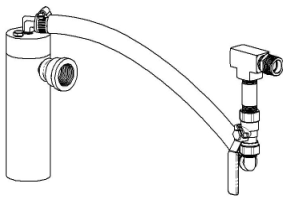

Fig 13A
- F2K Flow inducer with on/off ball valve (2" submersible & transfer pumps) (Fig 13A)
F3K Flow inducer with on/off ball valve (3" submersible & transfer pumps) (Fig 13A)